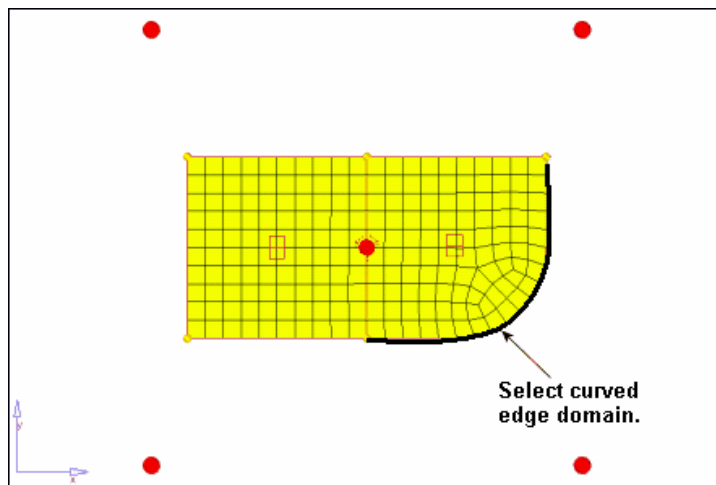

Figure 2: Edge domain to select
3. With the **domain** selector active, select the edge domain of the part's radius as indicated in the Figure 2.